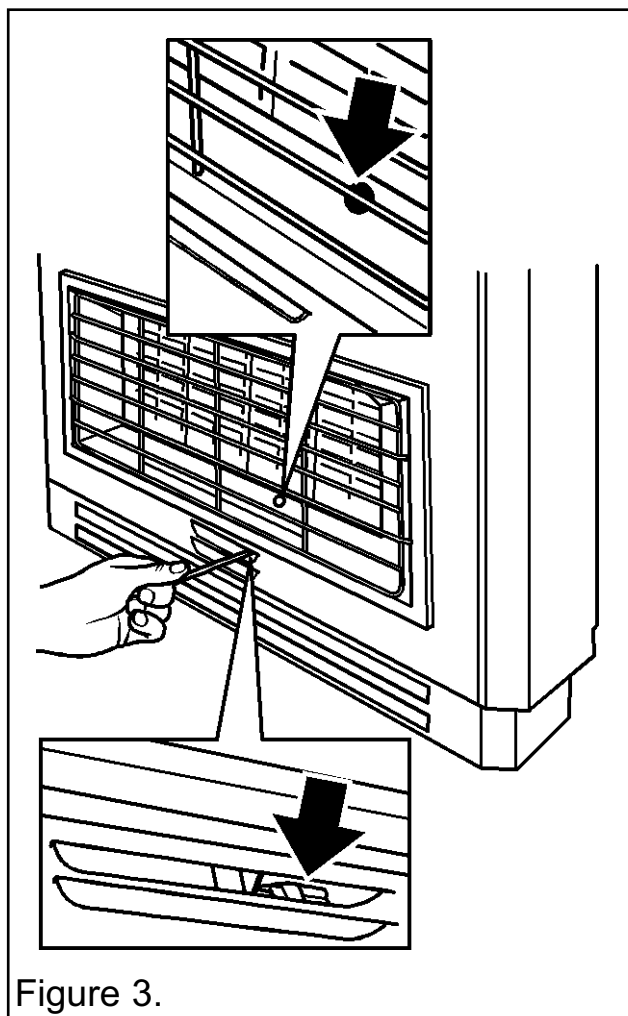

Figure 3.
1. Slide the control button to the ignition / low (↵ L) position. In this position, the electronic ignition system should cause a series of sparks that should light the pilot. The pilot flame can be seen through a hole immediately in front of the centre radiants (See the upper section of figure 3). Within four seconds of the pilot igniting, the two centre radiants should light.
(See figure 3).
position (↙ L). While keeping the knob depressed, light the pilot by inserting a long match or taper into the opening shown in figure 3 (The upper slot of the two).